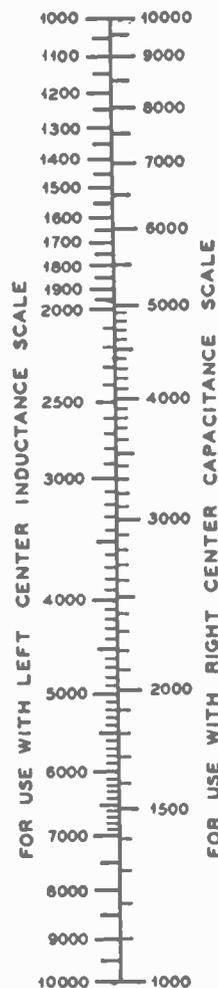

Fig. 1—Filter Design Calculator Chart for  $\pi$ - and T-type Sections.
Two types of low-pass and high-pass filters are in general use. Because of their general shape, these are known as T-types and  $\pi$ -types, respectively. The two types for both low- and high-pass filters are shown at the top of Fig. 1. Here it may be noted that the high-pass filters of both types have condensers in series with the load, R, and inductances in parallel, thus passing the high frequencies to the load and by-passing the low frequencies. Conversely, the low-pass filters have inductances in series, thus passing the low frequencies, and condensers in parallel, thus by-passing the high frequencies, in the current supply to the load.
These proofs are given below. It may here be noted that eq (2) and (3) show that the cut-off frequency for a high-pass filter is 1/4 of that for a low-pass filter, which explains the double frequency scale in Fig. 1. Supplementing these equations we also have the well-known formula